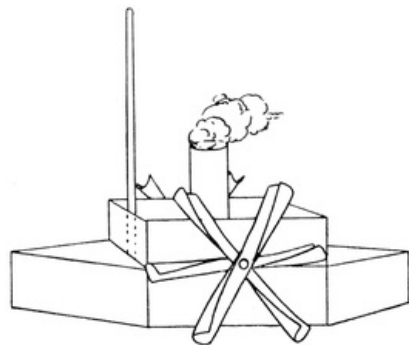
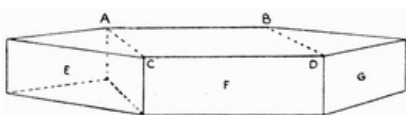
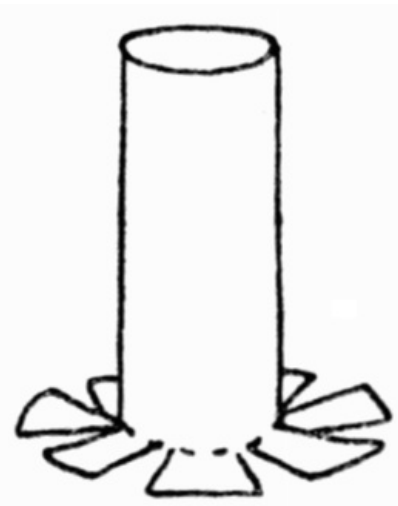

FIG. 109
FIG. 110
FIG. 111
**A Paddle-wheel Steamer** (Fig. 109). The cover of a match-box, A B C D, is covered on top and bottom with two pieces of stiff paper or cardboard pointed at both ends (Fig. 110). A long strip of paper is cut, E F G, etc., and fastened round the cover and projecting cardboard. The box is gummed on to A B C D. The funnel is made of a roll of red paper (Fig. 111). The mast is a roll or strip of paper gummed to inside of box.